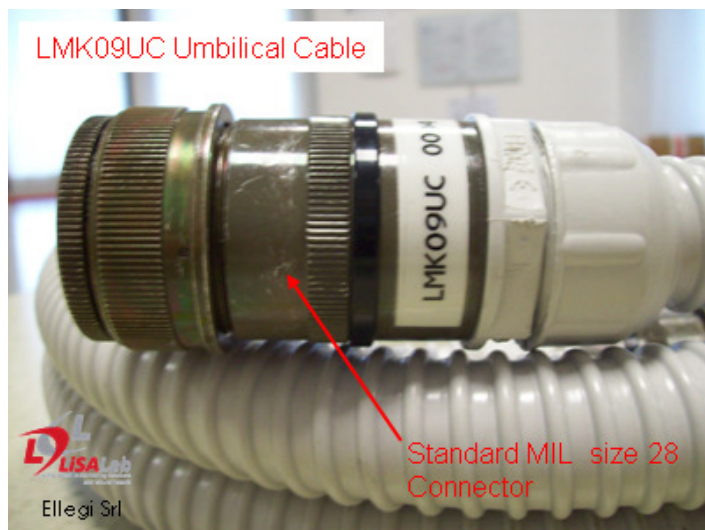

Figure 3: LISAMOBILE LMUC umbilical cable and one of its connectors.
2. Umbilical Cable LMUC: the umbilical cable LMUC to connects the power base PBLM to the linear positioner PLLM. At each end of the umbilical cable there is a 22 pins standard MIL size 28 connector; the side of the umbilical cable that has to be connected to the power base has got a socket whilst the side that has to be connected to the linear positioner has a plug (Figure 3).